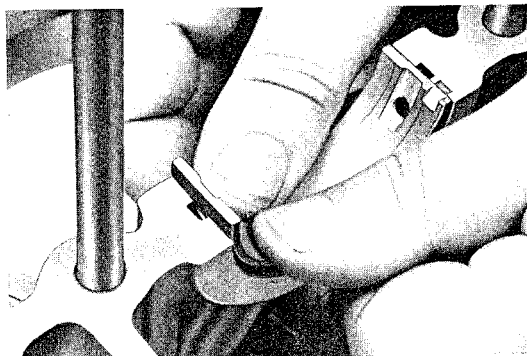

Fig. 2
2. Install bearing insert at index first; then press firmly into place (Fig. 2).